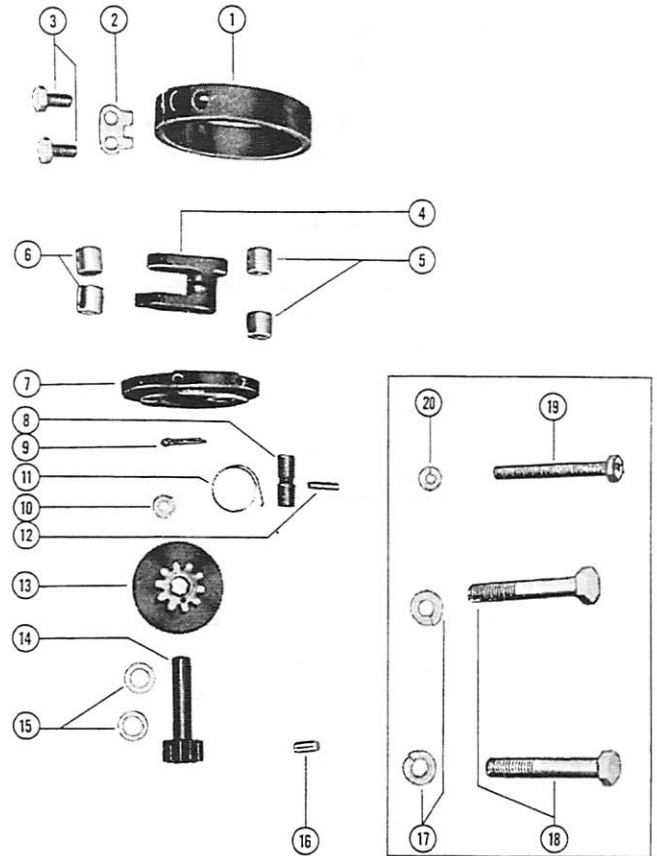

Figure 13. Starter Mechanism
C. Starter Mechanism, 4 and 2 Cylinder Motors (Figure 13)